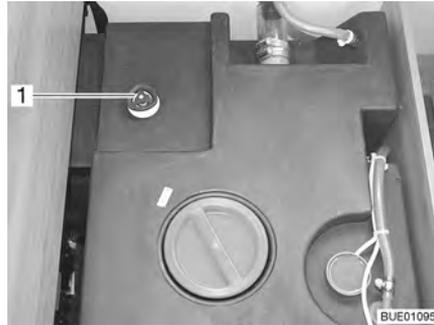

Fig. 203 Water tank with handle
- Turn the handle (Fig. 203,1) on the water tank in an anticlockwise direction as far as possible beyond the resistance to fully open the drainage opening.